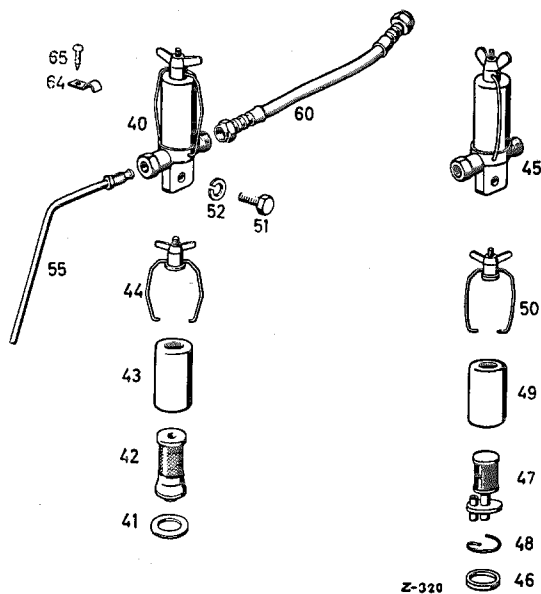

Fig. 47—6/1
1. Unscrew the fuel line (55) from the fuel tank to the filter, at the filter (Fig. 47—6/1).